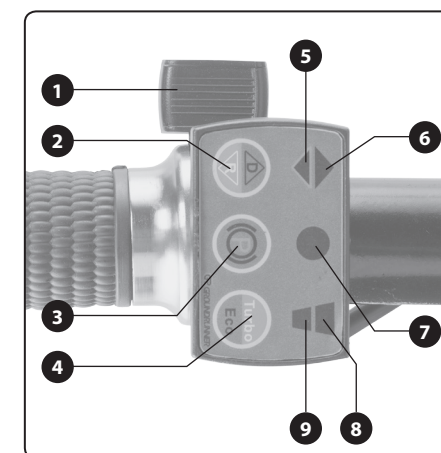

Fig. 23, position-description
- The electric drive is turned on using button (fig. 23, position 1), where the degree to which it is pressed
regulates the speed. The rotation (travel) direction is set using button (fig. 23, position 2) and drive power (engine power) is set using button (fig. 23, position 4). Pressing button (fig. 23, position 3) will engage the brake and stop the motion of the wheelbarrow (block the rotation of the wheel). Further information about the el. drive settings are provided in the description of the control panel (fig. 23).